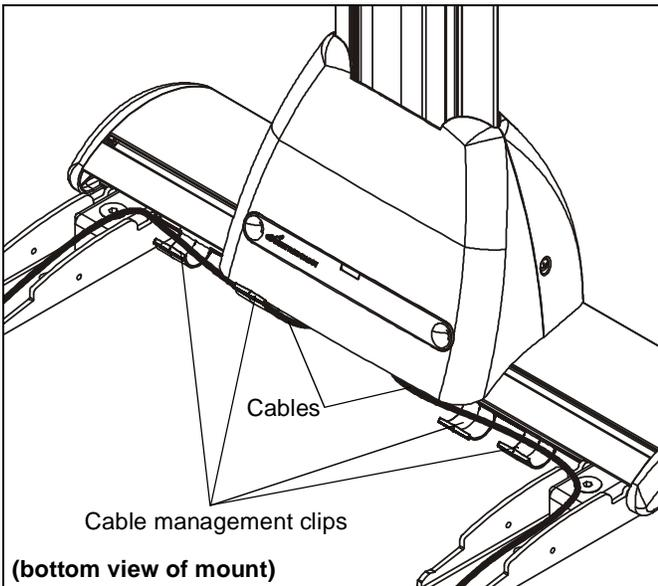

Figure 9
- Exit cables out bottom of cover and through cable management clips. (See Figure 9)